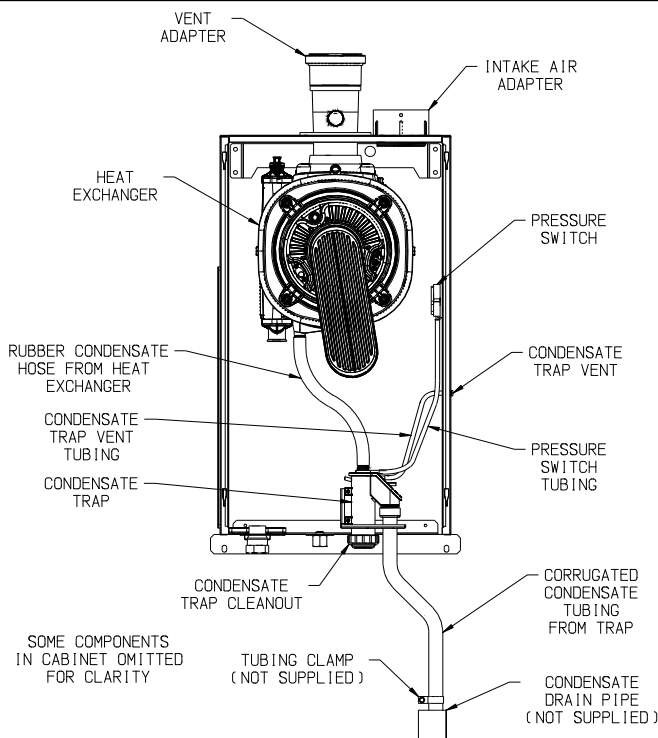

FIGURE 7.47: CONDENSATE PIPING ARRANGEMENT
All condensate which forms in the boiler or vent system passes through the heat exchanger and out of a bottom drain port which is connected to the condensate trap with a hose. This trap allows condensate to drain from the heat exchanger while retaining flue gases in the boiler. This trap is an integral part of the boiler but must be connected to a drain pipe as shown in Figure 7.47. A length of corrugated tubing is supplied with the boiler and is connected to the trap as shown in Figure 7.35. Note the following when disposing of the condensate:
1. If the corrugated condensate drain line must be extended, construct the extension from PVC or CPVC pipe. Insert the hose provided with the boiler into the end of the extension as shown in Figure 7.47.
6. Do not attempt to move the trap from the location shown in Figure 7.47. Do not attempt to substitute another trap for the one provided with the boiler.
7. The vent shown in Figure 7.47 must be left open for the trap to work properly.